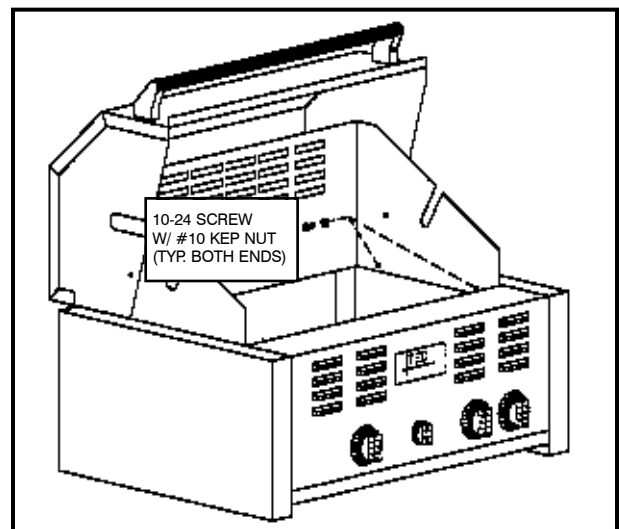

Figure 8. Roll Back Hood
4. Fasten the Hood to the Grill Housing with the supplied hardware. (Hardware needed: Four (4) each #10-24 x 1/2"L screws and nuts.) (See Figure 8.)